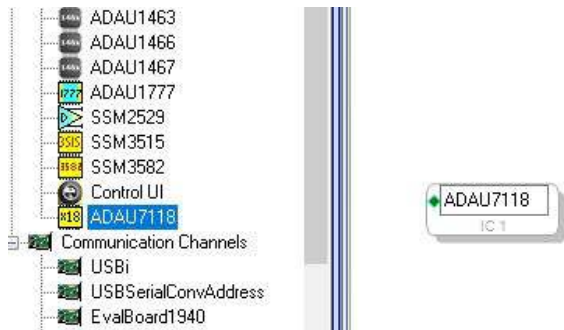

Figure 14. Adding the ADAU7118 to the SigmaStudio Project
1. Click the icon in the far upper left of the SigmaStudio application window to open a new project. Find the **ADAU7118** in the **Tree Toolbox** (see Figure 14) and drag and drop it in the **Hardware Configuration** tab (see Figure 16).